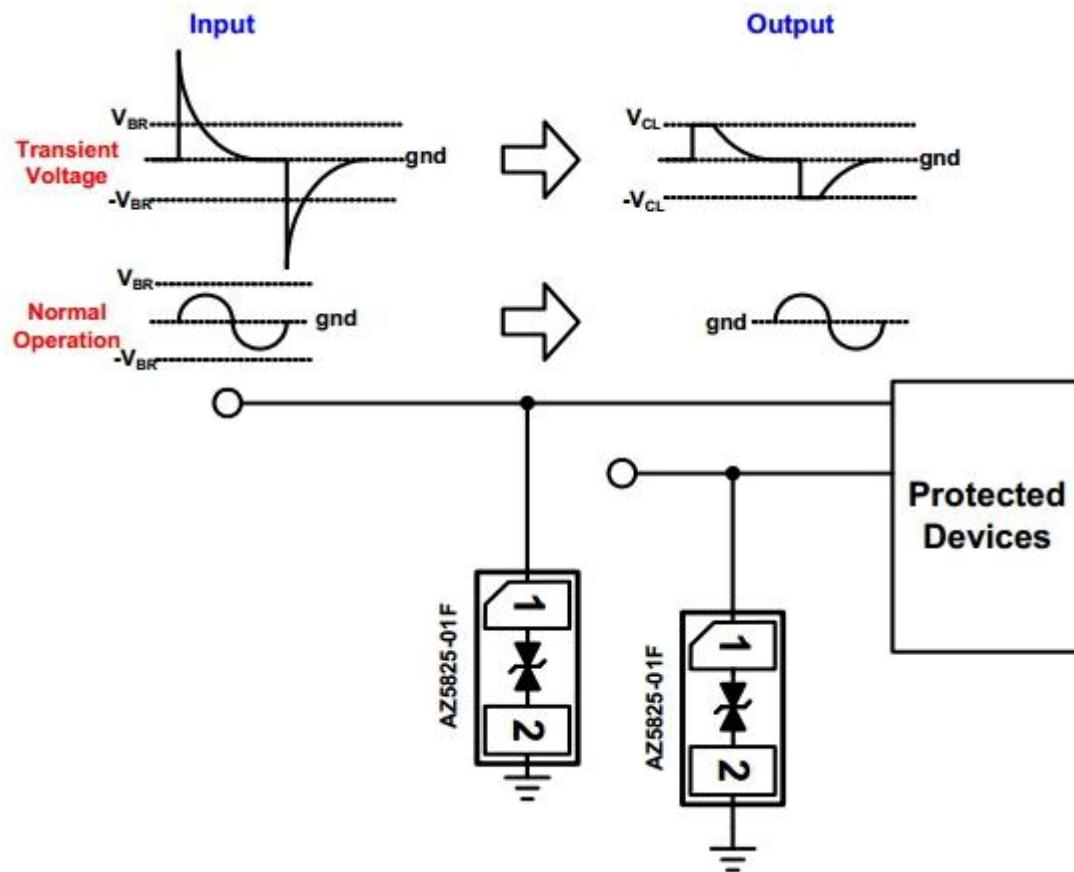

Figure 3-31 AZ8525-01F Application Design
- RK818-3 maximum input voltage is 5.7V, to prevent USB port voltage over 5.7V or more by the surge voltage, the pin 8 and pin 9 of RK818-3 need to add TVS, which is very important. It is recommended model: AZ5825-01F, which meet the ESD immunity requirements of IEC 61000-4-2, level 4 ($\pm 15\text{KV}$ air, $\pm 8\text{kV}$ contact discharge). The TVS application design shown as Figure 3-31; protected line is connected at pin 1, and the pin 2 is connected to a ground plane on